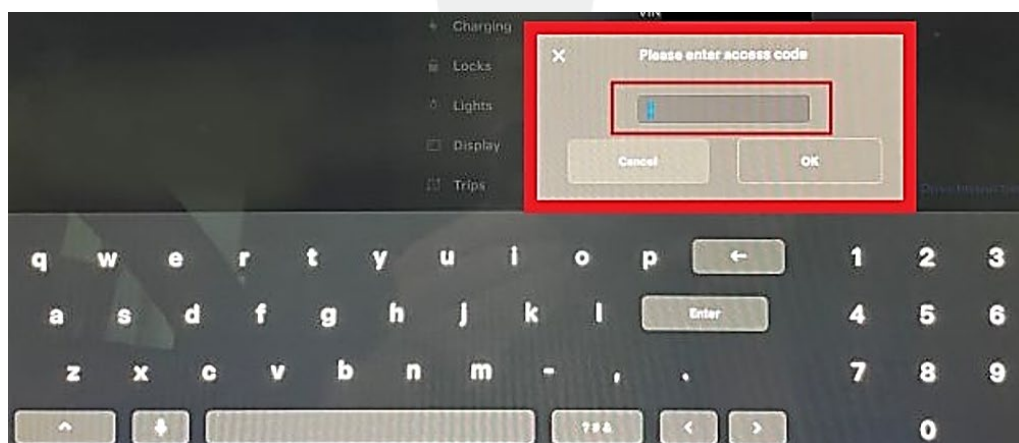

Figure 2
- b. Type “Service” in the access code field (Figure 2), and then touch **OK** to enter Service Mode.